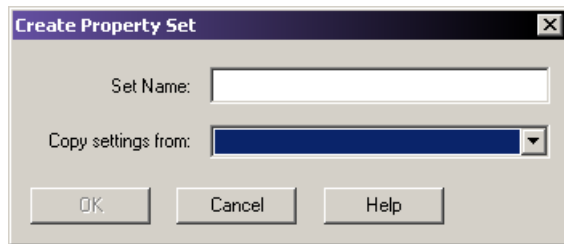

Figure 2.15 Create Property Set Dialog Box
2. Enter a name in the Create Property Set dialog box (Figure 2.15).